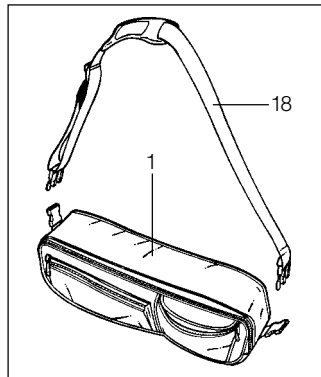

Fig. 11
- Remove the shoulder strap (18) from the bag (see Fig. 11) and place it in the OXYTRON®2 Mobile carrying bag (1).